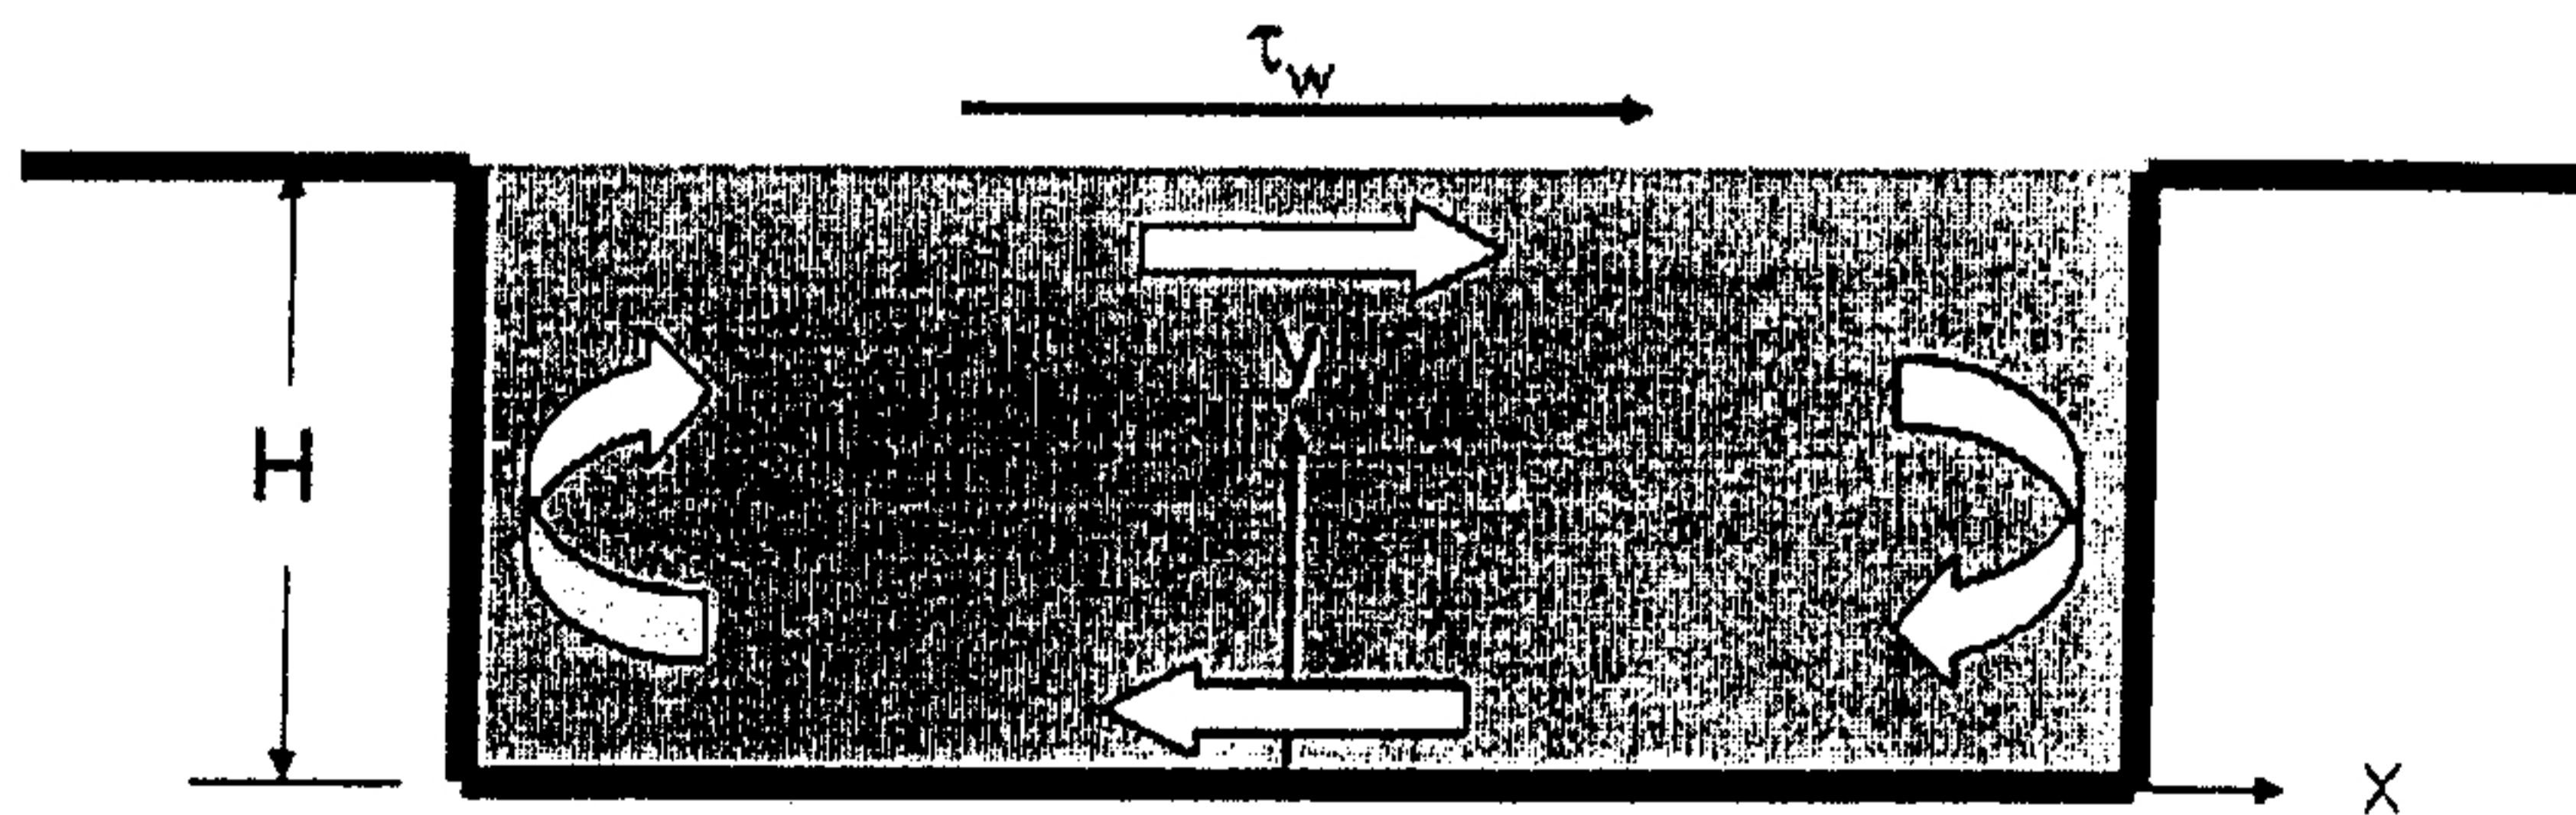

Figure 4
4. As shown in Figure 4, the wind stress exerts a stress τ_w at the free surface which induces a Couette type of flow to the right. However, in order to conserve mass within the closed region, a return flow is required. In this problem, we can assume the flow is nearly parallel far from the ends and the free surface remains flat. Please answer the following questions: